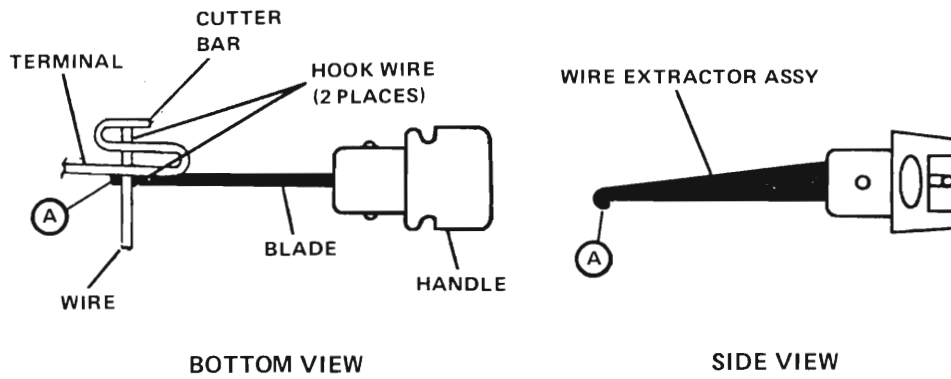

Figure 2-36. Wire Extractor
2-25. Using the Insertion Tool (Figure 2-36).
- d. With pusher centered on slot in terminal, squeeze trigger assembly until it bottoms on the internal stop. This will extend the pusher the correct distance to shear the wire and make the proper termination. See Figure 2-36.
Inspect terminations for proper wire insertions (Figure 2-36). Proper insertion should place wire and insulation below edge of terminal cutter bar. Wire and insulation should be sheared completely during insertion. Occasionally the following conditions may occur: